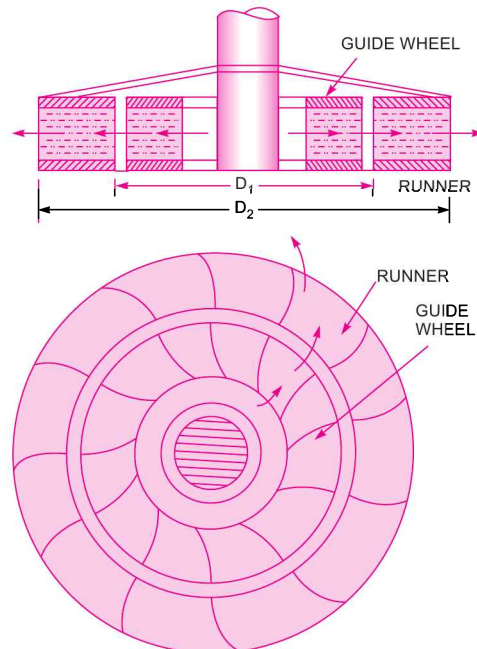

Fig. 18.18 Outward radial flow turbine.
18.7.5 Outward Radial Flow Reaction Turbine. Fig. 18.18 shows outward radial flow reaction turbine in which the water from casing enters the stationary guide wheel. The guide wheel consists of guide